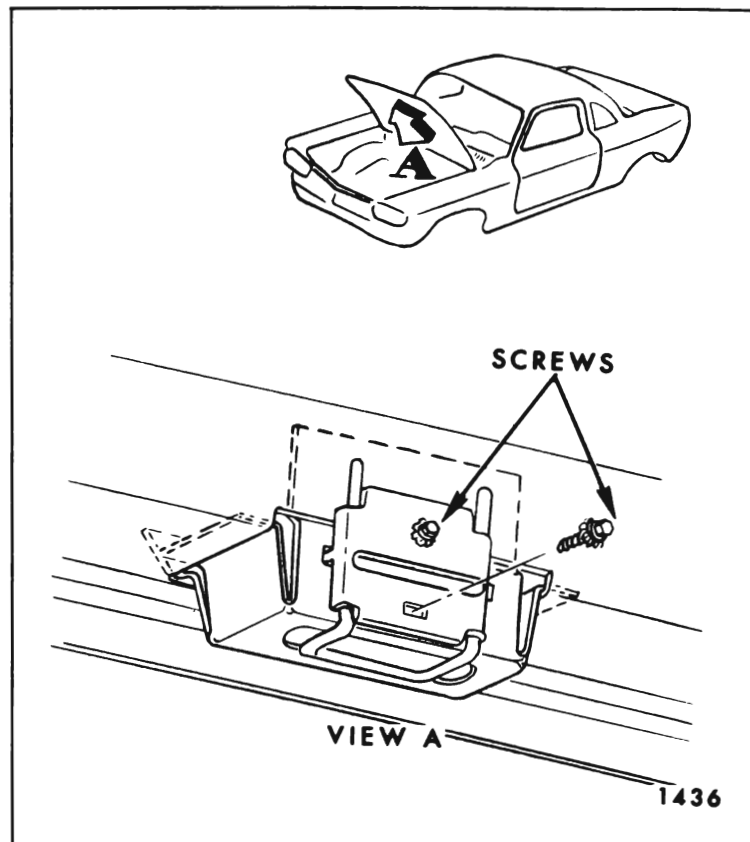

Fig. 3-32—Front Compartment Lid Lock Striker
2. Remove striker retainer plate attaching bolts and remove retainer plate and striker (Fig. 3-32).